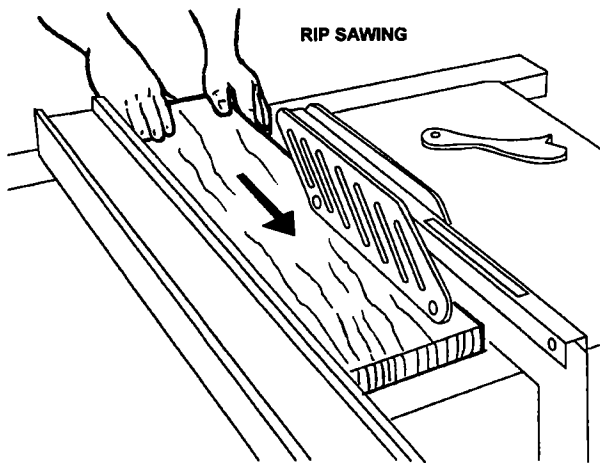

FIGURE 15
1. Ripping is a sawing process where the work piece is fed with the grain into the saw blade using the fence as a guide and a positioning device to ensure the desired width of cut, Figure 15.